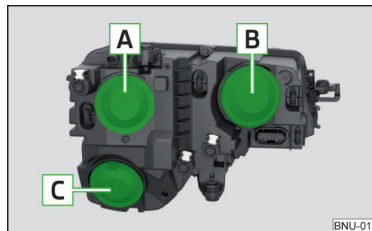

Fig. 346
- Remove the protective caps **A** and **B** » Fig. 346 on page 296.
- Remove the protective cap **B** » Fig. 346 on page 296.
- Fit the protective cap **B** » Fig. 346 on page 296.
- › Remove the protective cap **C** » Fig. 346 on page 296.
Fit the protective cap **C** » Fig. 346 on page 296.